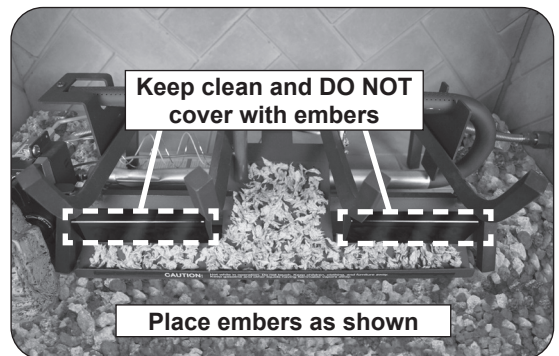

Fig. 19-2 Place glowing embers
1. Place the glowing embers evenly over the entire surface of the ember burner as shown in Fig. 19-2. **Break up any clumps that may have developed during shipment. Store unused embers for later use/replacement.**
Note: Ensure the porcelainized panels are clean of all dust. Use a clean soft cloth if necessary. See Fig 19-2.